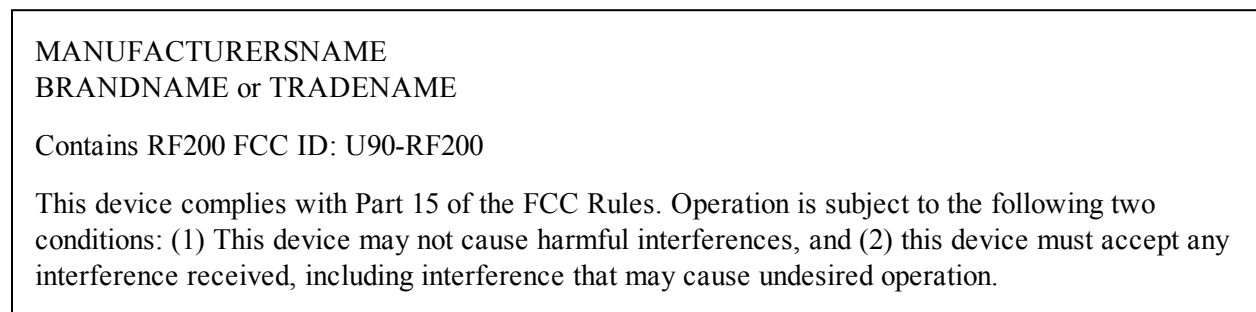

Figure 2.1: FCC Label
1. The system integrator must place an exterior label on the outside of the final product housing the RF200 Modules. **Figure 2.1** below shows the contents that must be included on this label.
NOTICE: The OEM must make sure that FCC labeling requirements are met. This includes a clearly visible exterior label on the outside of the final product housing that displays the contents shown in **Figure 2.1** below.